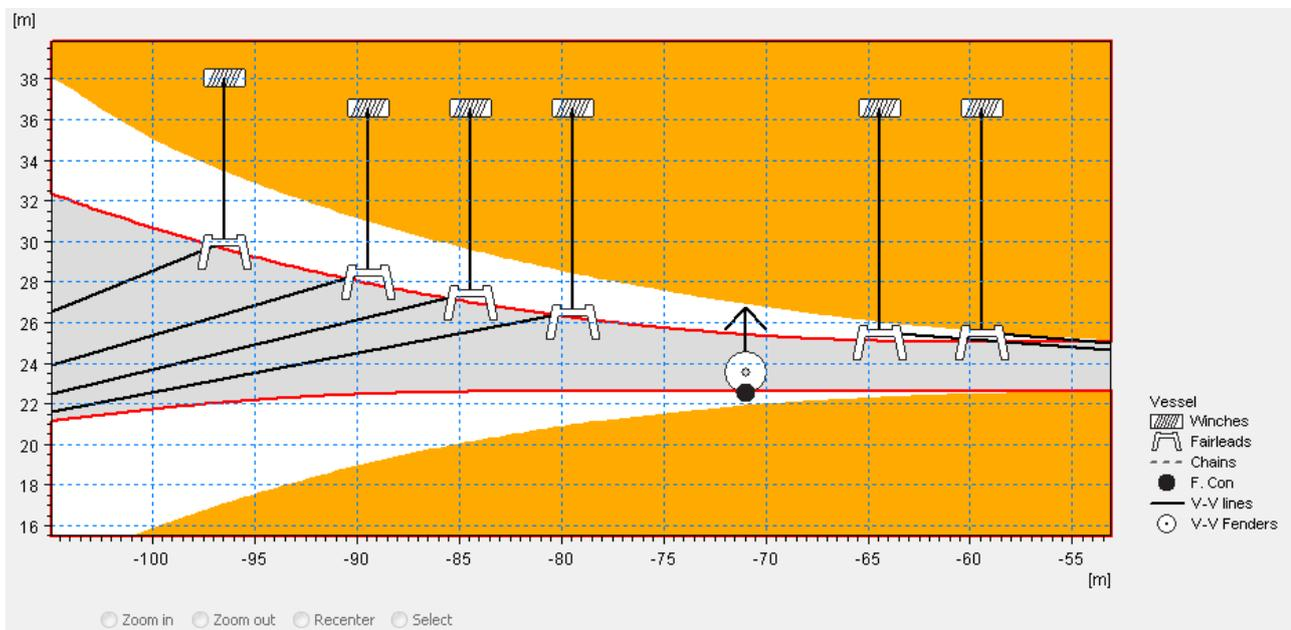

Figure 4-12 Example of a newly defined fender connection (dotted white circle with arrow icon showing the fender force direction)
- b. Moving the cursor and clicking on the F. Con icon (see Figure 4-12).